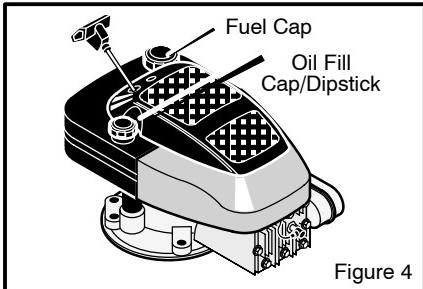

Figure 4
1. Remove the oil fill cap/dipstick shown in Figure 4. Fill the crankcase to the FULL line on oil fill cap/dipstick. **DO NOT OVERFILL.**